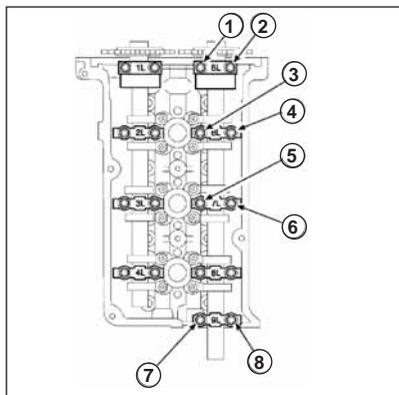

Figure 2 Torque sequence for 2001-'06 3.0L Ford engine.
4) Torque bolts in sequence shown in **Figure 2** (below) to 72 in.lbs. (8 Nm) excluding No. 8L camshaft cap.